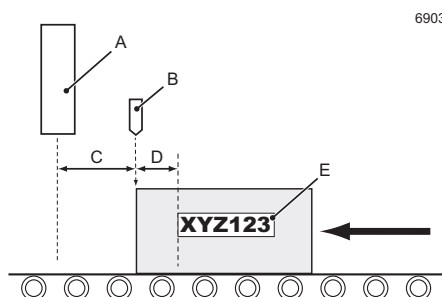

Figure 12. Print position
This section shows you how to make sure that the printed message appears in the correct position on the product. Figure 12 helps you understand the print position. The large arrow shows the direction of the movement of the product. In this example, there is a fixed distance (C) between the printhead (A) and the sensor (B) that detects the edge of the product. This distance is the ‘Trigger to Printhead Distance’. The distance is zero for some installations. The Trigger to Printhead Distance is a setting associated with a production line. The value is set during printer installation, but if necessary you can adjust the value on the **Line Settings** screen (see ‘Trigger to Printhead Distance’ on page 40)